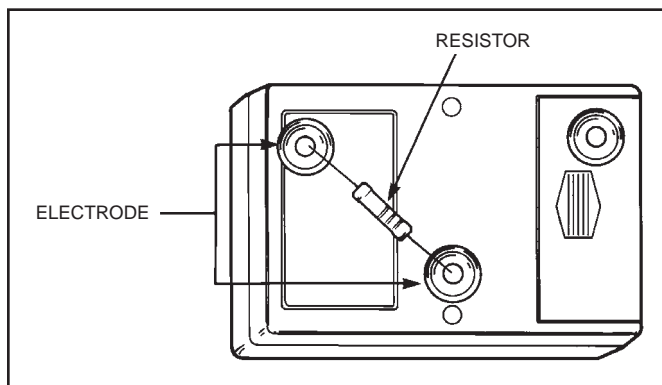

Figure 7. Calibration of the Micro Meg
A check on the function of the Micro Meg can be performed with the following procedure. You will need 1% resistors of the following values: 100K, 1M, 10M, 100M, 1G and 10G ohms. These precision resistors will be placed across the two electrodes on the bottom of the meter (see Figure 7).
B. Place the 10G ohm resistor across the middle electrode and the side electrode as illustrated in Figure 7. Press the test button. The second LED should light. Be sure not to contact the leads or the buttons as your body's resistance will affect the readings.